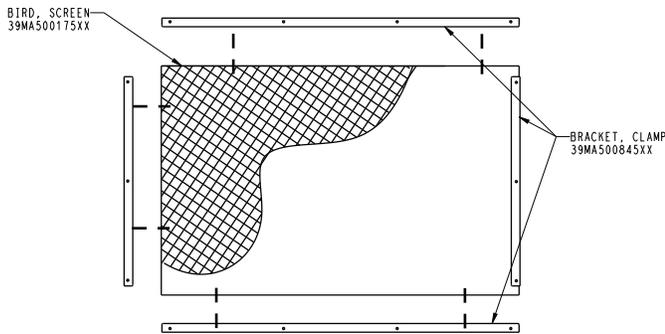

Fig. 80 – Mounting the Bird Screen
9. Mount the four brackets to the bird screen. See Fig. 80.